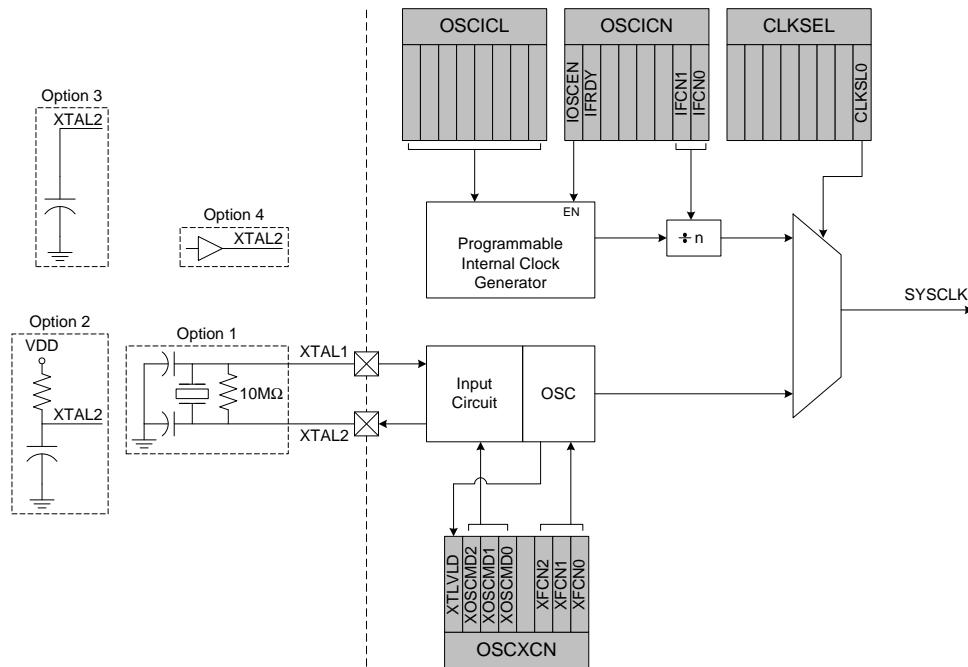
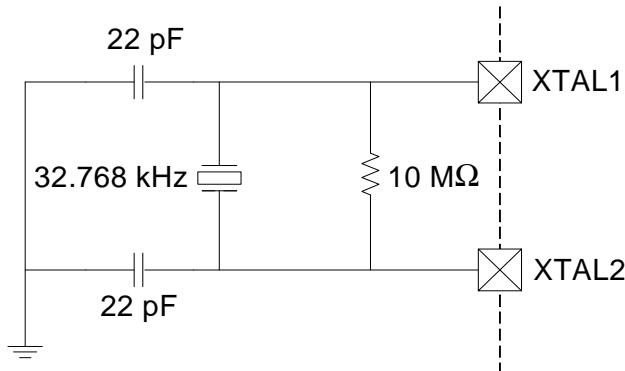

Figure 12.1. Oscillator Diagram
Figure 12.2. 32.768 kHz External Crystal Example
C8051F31x devices include a programmable internal oscillator and an external oscillator drive circuit. The internal oscillator can be enabled/disabled and calibrated using the OSCICL and OSCICN registers, as shown in Figure 12.1. The system clock can be sourced by the external oscillator circuit, the internal oscillator, or a scaled version of the internal oscillator. The internal oscillator's electrical specifications are given in Table 12.1 on page 123.
The external oscillator circuit may drive an external crystal, ceramic resonator, capacitor, or RC network. A CMOS clock may also provide a clock input. For a crystal or ceramic resonator configuration, the crystal/resonator must be wired across the XTAL1 and XTAL2 pins as shown in Option 1 of Figure 12.1. A 10 MΩ resistor also must be wired across the XTAL2 and XTAL1 pins for the crystal/resonator configuration. In RC, capacitor, or CMOS clock configuration, the clock source should be wired to the XTAL2 pin as shown in Option 2, 3, or 4 of Figure 12.1. The type of external oscillator must be selected in the OSCXCN register, and the frequency control bits (XFCN) must be selected appropriately (see SFR Definition 12.4).
CRYSTAL MODE (Circuit from Figure 12.1, Option 1; XOSCMD = 11x) Choose XFCN value to match crystal frequency.
RC MODE (Circuit from Figure 12.1, Option 2; XOSCMD = 10x) Choose XFCN value to match frequency range: $f = 1.23(10^3) / (R \times C)$, where f = frequency of clock in MHz C = capacitor value in pF R = Pullup resistor value in kΩ
C MODE (Circuit from Figure 12.1, Option 3; XOSCMD = 10x) Choose K Factor (KF) for the oscillation frequency desired: $f = KF / (C \times V_{DD})$, where f = frequency of clock in MHz C = capacitor value the XTAL2 pin in pF V_{DD} = Power Supply on MCU in volts
If a crystal or ceramic resonator is used as an external oscillator source for the MCU, the circuit should be configured as shown in Figure 12.1, Option 1. The External Oscillator Frequency Control value (XFCN) should be chosen from the Crystal column of the table in SFR Definition 12.4. For example, an 11.0592 MHz crystal requires an XFCN setting of 111b.
For example, a tuning-fork crystal of 32.768 kHz with a recommended load capacitance of 12.5 pF should use the configuration shown in Figure 12.1, Option 1. The total value of the capacitors and the stray capacitance of the XTAL pins should equal 25 pF. With a stray capacitance of 3 pF per pin, the 22 pF capacitors yield an equivalent capacitance of 12.5 pF across the crystal, as shown in Figure 12.2.
If an RC network is used as an external oscillator source for the MCU, the circuit should be configured as shown in Figure 12.1, Option 2. The capacitor should be no greater than 100 pF; however, for very small capacitors, the total capacitance may be dominated by parasitic capacitance in the PCB layout. To determine the required External Oscillator Frequency Control value (XFCN) in the OSCXCN Register, first select the RC network value to produce the desired frequency of oscillation. If the frequency desired is 100 kHz, let R = 246 kΩ and C = 50 pF:
If a capacitor is used as an external oscillator for the MCU, the circuit should be configured as shown in Figure 12.1, Option 3. The capacitor should be no greater than 100 pF; however for very small capacitors, the total capacitance may be dominated by parasitic capacitance in the PCB layout. To determine the required External Oscillator Frequency Control value (XFCN) in the OSCXCN Register, select the capacitor to be used and find the frequency of oscillation from the equations below. Assume V_{DD} = 3.0 V and C = 50 pF: